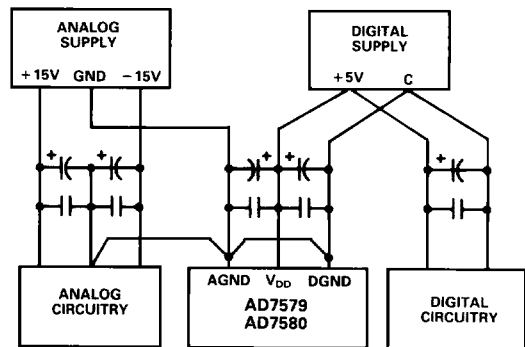

Figure 19. Power Supply Grounding Practice
**Grounding:** Establish a single-point analog ground (STAR ground) at Pin 6 (AGND) or as close as possible to the AD7579/AD7580. This is shown in Figure 19. Pin 12 (AD7579/AD7580 DGND) and all other analog grounds should be connected to this single analog ground point. However, do not connect any other digital grounds to this analog ground point. Low impedance analog and digital power supply returns are essential to low noise operation of the ADC and these tracks should be kept as wide as possible.